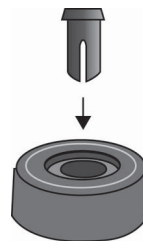

Figure 12. Inserting the Rivet Housing into the Bumper Foot
3. Inset a rivet housing into a bumper foot shown in Figure 12.